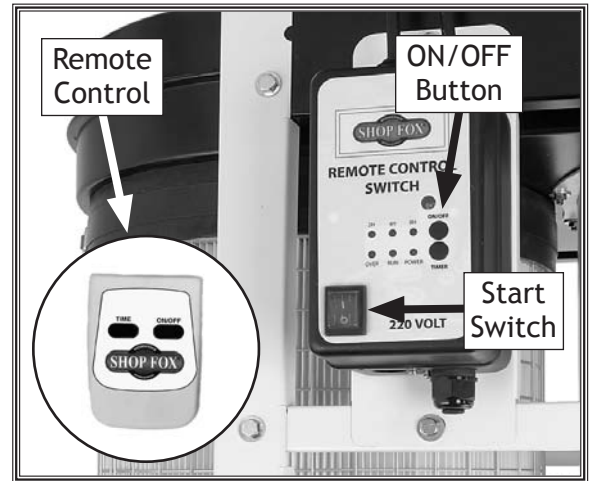

Figure 31. Machine controls.
4. Press the start switch to allow power to flow to the magnetic switch—the power light will illuminate (see **Figure 31**). Refer to **Basic Controls** on **Page 24** for additional details on the controls for your dust collector.